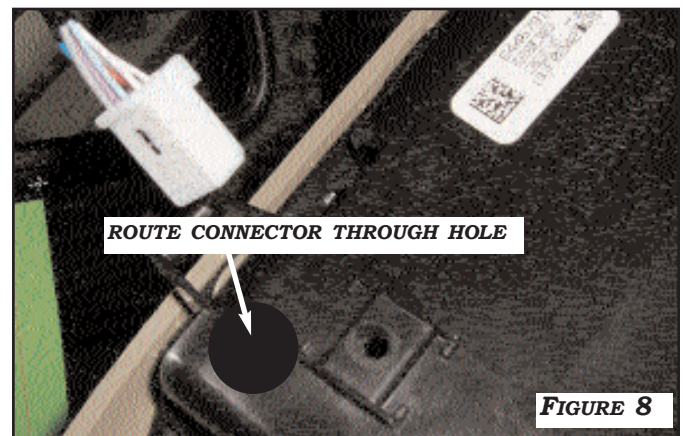
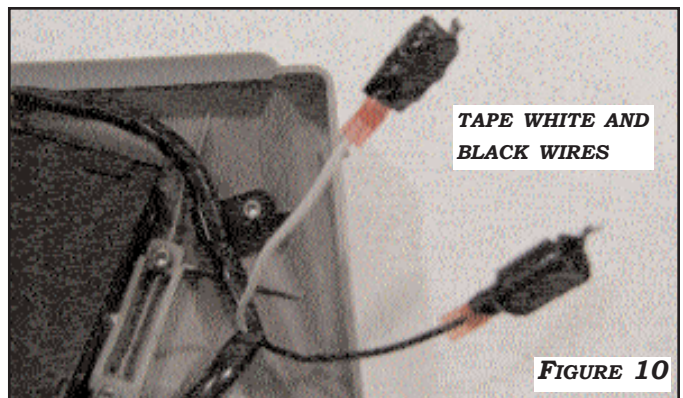

FIGURE 8
FIGURE 10
1. CONNECT DOME LIGHT HARNESS PREVIOUSLY DISCONNECTED. ROUTE THE VEHICLE 12-PIN CONNECTOR THROUGH DRILLED HOLE IN CONSOLE. CONNECT MONITOR HARNESS TO FACTORY HARNESS. WRAP THE CONNECTORS WITH THE SUPPLIED FOAM TAPE. **FIGURES 8,9.** BE SURE TO TAPE THE UNUSED WHITE AND BLACK WIRES FROM MONITOR HARNESS WITH ELECTRICAL TAPE. **FIGURE 10**